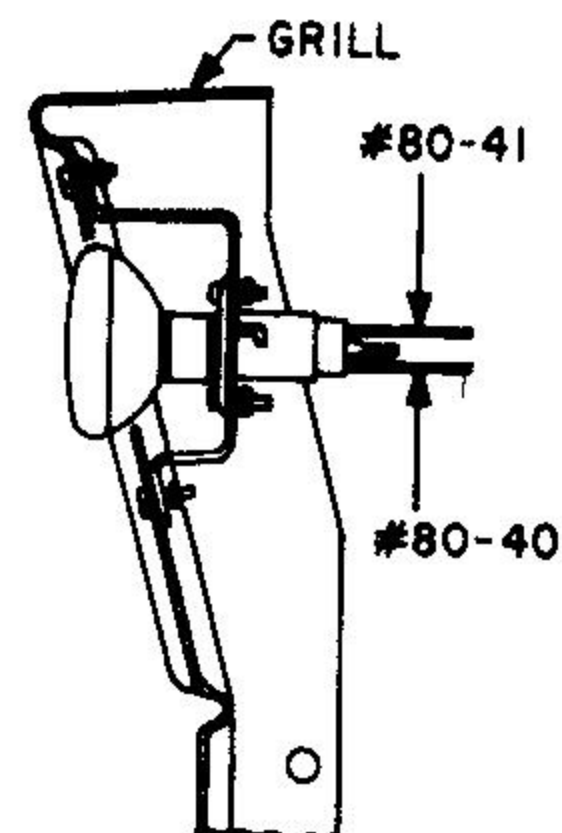

Figure 2
8. Secure the socket assemblies to the brackets with 6-32 x 3/8-inch pan-head screws, lockwashers, and nuts as shown in Figure 2.
9. Secure each bracket assembly to the inside of the grill with 6-32 x 3/8-inch pan-head screws, lockwashers, and nuts as shown in Figure 2.